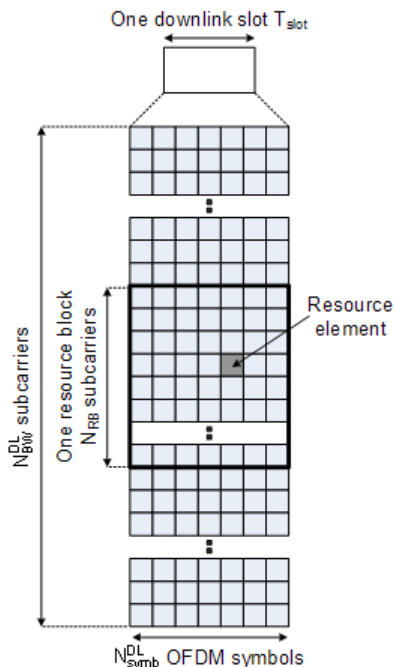

Fig. 3-7: Downlink Resource Grid (3GPP TS 36.211 [3])
The figure 3-7 shows the structure of the downlink resource grid for the duration of one downlink slot. The available downlink bandwidth consists of  $N_{BW}^{DL}$  subcarriers with a spacing of  $\Delta f = 15$  kHz. In the case of multi-cell MBMS transmission, a subcarrier spacing of  $\Delta f = 7.5$  kHz is also possible.  $N_{BW}^{DL}$  can vary in order to allow for scalable bandwidth operation up to 20 MHz. Initially, the bandwidths for LTE were explicitly defined within layer 1 specifications. Later on a bandwidth agnostic layer 1 was introduced, with  $N_{BW}^{DL}$  for the different bandwidths to be specified by 3GPP RAN4 to meet performance requirements, e.g. for out-of-band emission requirements and regulatory emission limits.
Data is allocated to the UEs in terms of resource blocks. A physical resource block consists of 12 (24) consecutive subcarriers in the frequency domain for the  $\Delta f = 15$  kHz ( $\Delta f = 7.5$  kHz) case. In the time domain, a physical resource block consists of  $N_{\text{symbol}}^{\text{DL}}$  consecutive OFDM symbols, see figure 3-7.  $N_{\text{symbol}}^{\text{DL}}$  is equal to the number of OFDM symbols in a slot. The resource block size is the same for all bandwidths, therefore the number of available physical resource blocks depends on the bandwidth. Depending on the required data rate, each UE can be assigned one or more resource blocks in each transmission time interval of 1 ms. The scheduling decision is done in the base station (eNodeB). The user data is carried on the physical downlink shared channel (PDSCH).